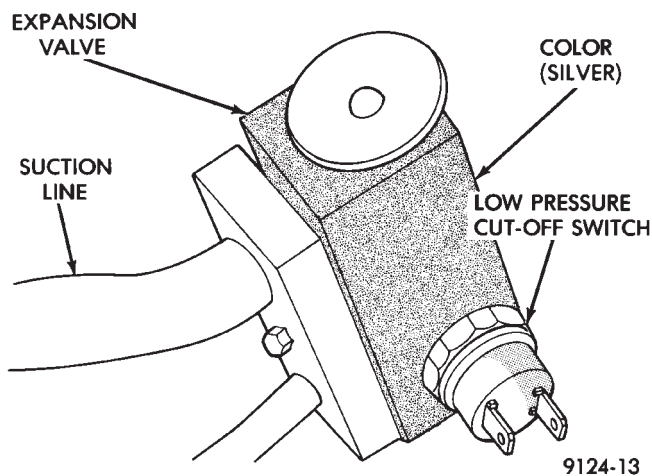

Fig. 18 Low Pressure Cut-Off Switch and Expansion Valve—Typical
(1) Disconnect the boot like wire connector at the cut-off switch.
(2) Using a sender unit type socket, remove the switch from the expansion valve (Fig. 18 or 19).